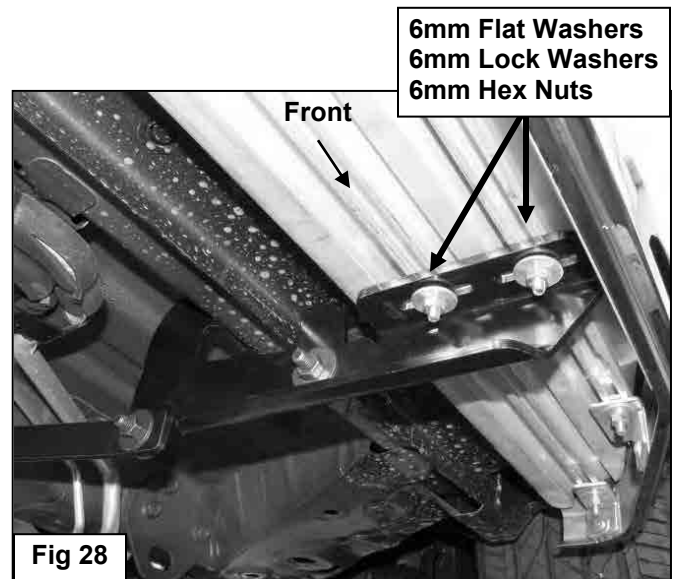

Fig 28
19. Carefully unwrap the Running Boards and select the passenger side Running Board. Insert (6) 6mm T-Bolts into the slots in the ends of the channels, (3 T-Bolts per slot), on the bottom of the Running Board, (**Figure 27**). Hold the Running Board up in the approximate position and slide the T-Bolts down the slots to line up with the Brackets. Tilt the Running Board up at a slight angle to clear the slots in the Brackets. Secure the Running Board to the Brackets with (6) 6mm Flat Washers, (6) 6mm Lock Washers and (6) 6mm Hex Nuts, (**Figure 28**). **NOTE:** The Running Board is designed to fit close to the vehicle. It may be necessary to loosen the Mounting Brackets and tilt the Brackets downward to insert the Running Board. Do not fully tighten hardware at this time.